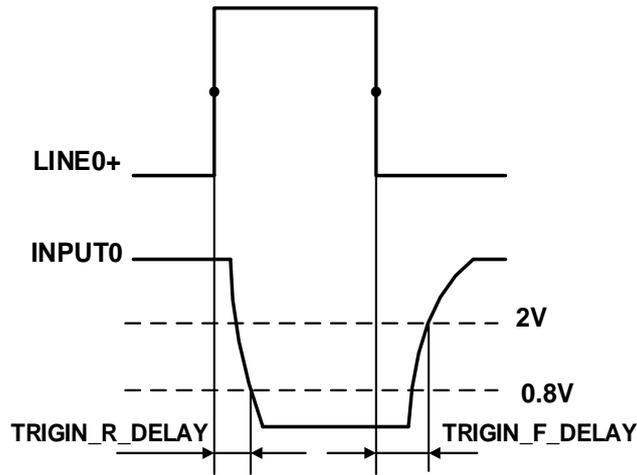

Figure 7-15 Parameter of opto-isolated input circuit
- Rising edge delay: $<50\mu\text{s}$ ($0^\circ\text{C}\sim 45^\circ\text{C}$), parameter description as shown in Figure 7-15
- Falling edge delay: $<50\mu\text{s}$ ($0^\circ\text{C}\sim 45^\circ\text{C}$), parameter description as shown in Figure 7-15
- Input rising time delay: <math><2\mu\text{s}</math> (0°C~45°C), parameter description as shown in Figure 7-15
- Input falling time delay: <math><2\mu\text{s}</math> (0°C~45°C), parameter description as shown in Figure 7-15